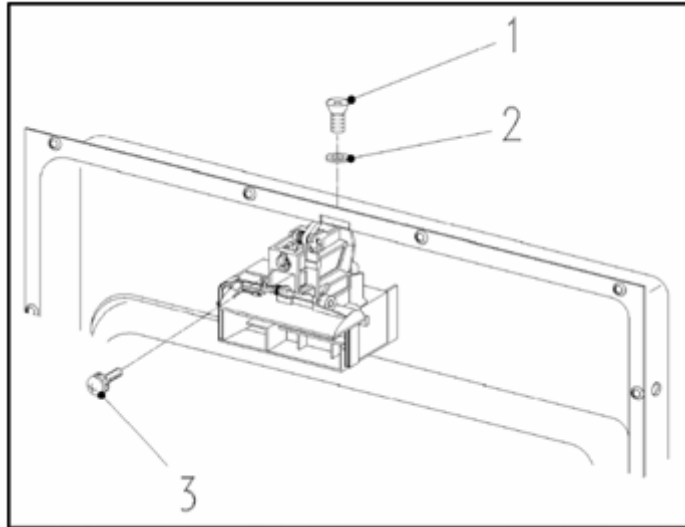

Figure 5-15: Lock Removal
3. Open the Door and remove the Screw (Figure 5-15 – Item 3).
A Sealing Ring (Figure 5-15 – Item 3) is located under the Countersunk Screw. This Sealing Ring must be refitted during reassembly.